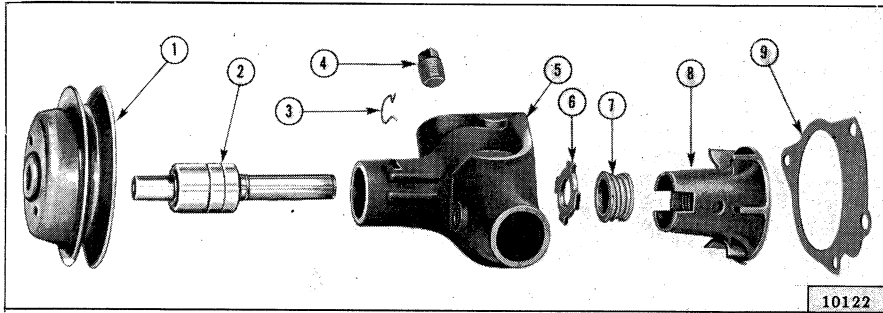

FIG. 139—WATER PUMP
Refer to Fig. 139.
The water pump on these models is a centrifugal impeller type of large capacity to circulate water in the entire cooling system. The double row ball bearing Fig. 139, is integral with the shaft and is packed at assembly with a special high melting point grease which will last the life of the bearing. The bearing is sealed to retain the lubricant and prevent dirt and dust from entering. The bearing and shaft are retained in the water pump body by the bearing retaining wire. The water seal bears against the ground seat on the pump body and the inside of the impeller, maintaining a constant pressure against both and preventing water leakage. A drain hole in the bottom of the pump body precludes any water seepage past the seal from entering the bearing.
- c. Remove the bearing retainer spring Fig. 139.